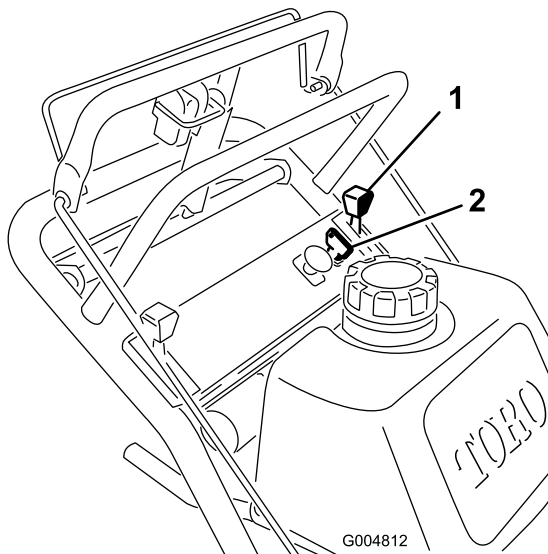

Figure 7
1. Move the throttle lever to the **slow** position (Figure 7).
3. Turn the ignition key to **off** (Figure 7).